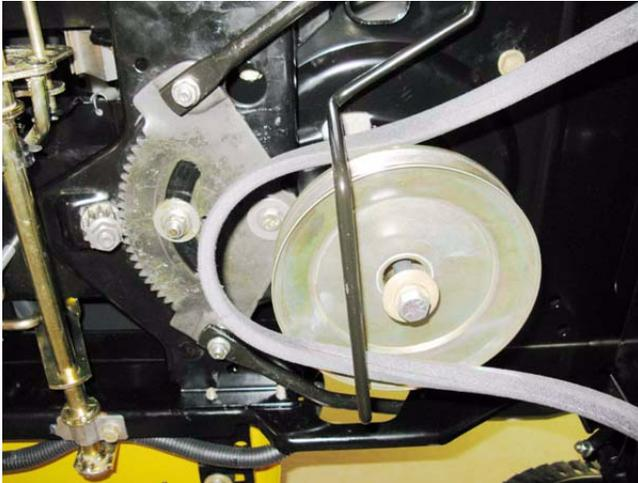

Figure 6.66
- C. Work the belt past the PTO pulley, and withdraw it from the front of the tractor. See Figure 6.66.